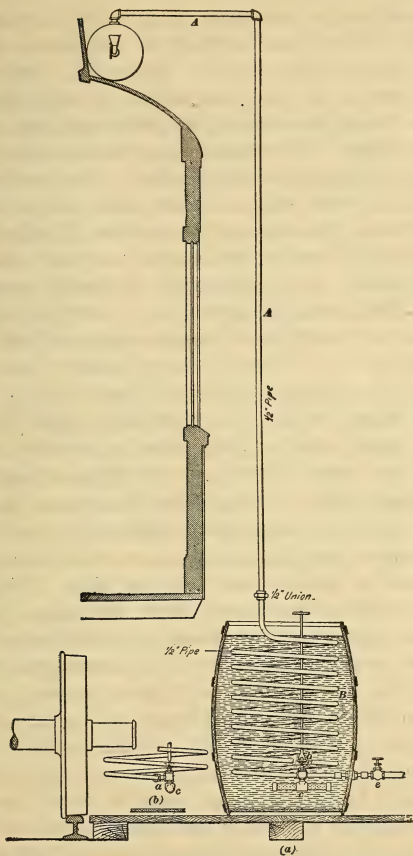

FIG. 7. ARRANGEMENT ILLUSTRATING METHOD OF FILLING THE HEATER CIRCULATION SYSTEM.
All draw-off or drain cocks in the circulation piping should be opened, the safety valve removed, and the combination cock kept closed. Then a half-inch pipe should be run from the topmost tapping in the expansion drum as shown at A A, Figure 7. This piping must be absolutely tight. It should be extended down outside the car and connected to the upper end of a coil or pipe in the barrel or tank, the latter being put as close as possible to the car. Coil B should be about 2 inches smaller in diameter than the inside of the barrel and should be coiled as closely as possible to insure a large amount of heating surface. Near the lower end should be a tee (T) fitting shown at a (see (b)) and an angle valve b should be connected to the tee (T) as indicated. A metal strainer c should be attached to the angle valve